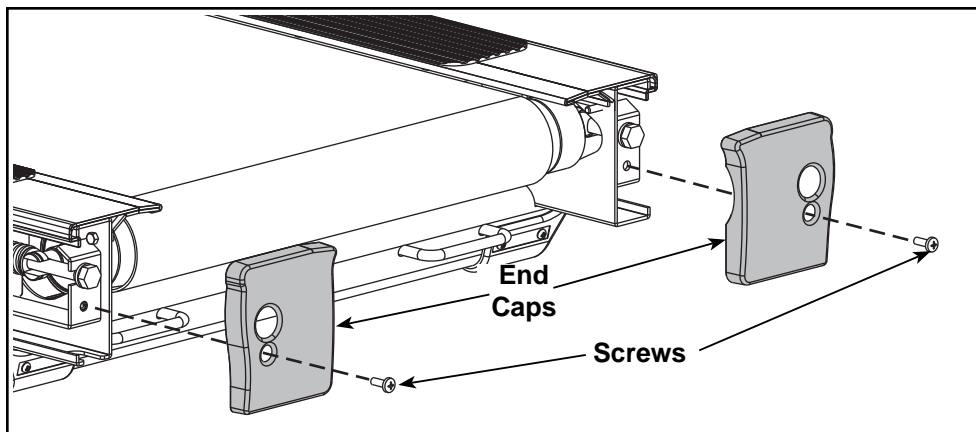

Figure 4
- A. Using a Phillips screwdriver, remove the screw that holds each end cap in place. See Figure 4.
- A. Using a Phillips screwdriver, tighten the screw that holds each end cap in place. See Figure 4.